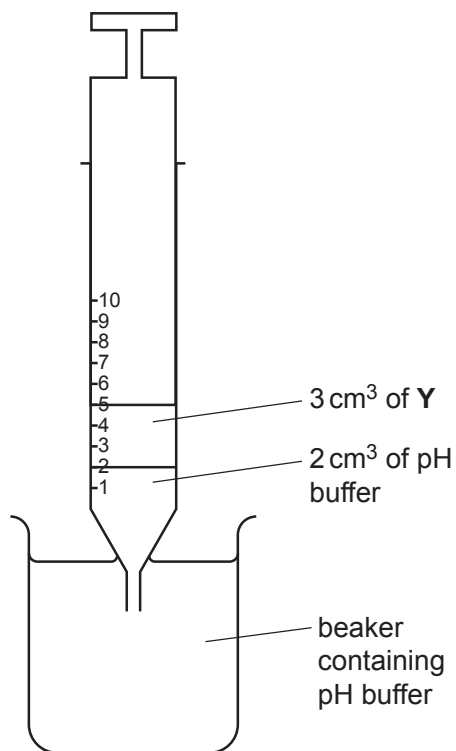

Fig. 1.3
- Pull the plunger out to the 5 cm^3 mark so that approximately 2 cm^3 of the buffer enters the syringe, as shown in Fig. 1.3.